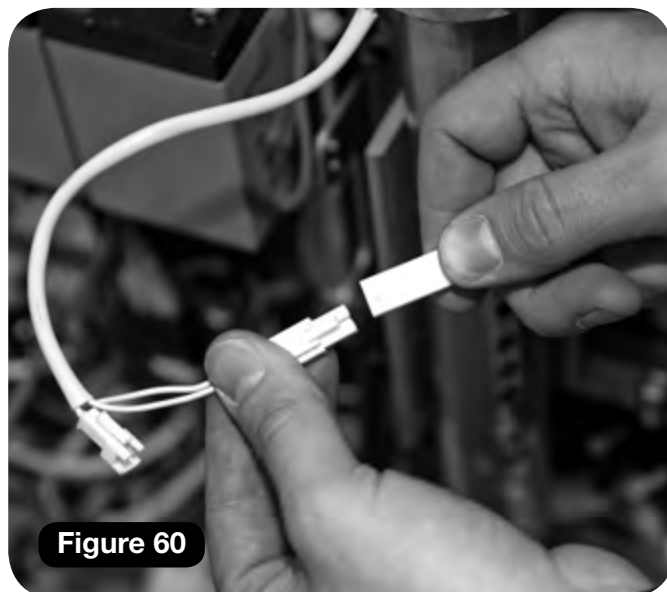

Figure 60
- Connect the seat to the swivel switch loom connector (white) **(Figure 60)**.